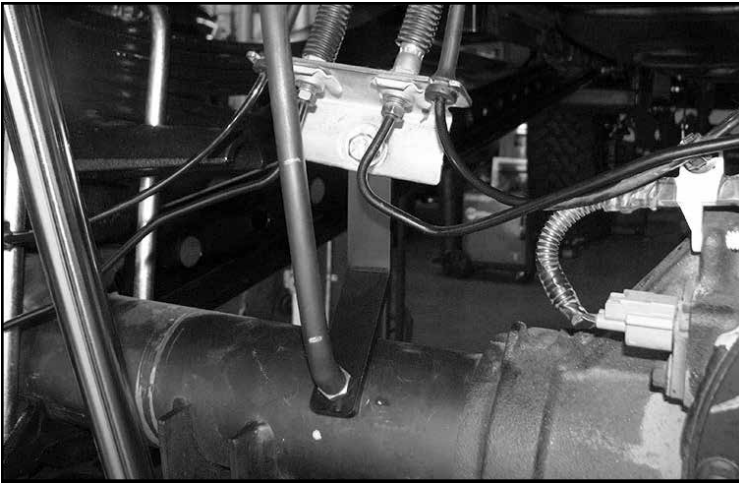

FIGURE 6 - STEP 6
6. (11-UP MODELS) Locate the factory brake line mount on the driver side of the axle. Remove the vent line from the bolt and remove the bolt. Save hardware. Locate the supplied brake line bracket FT30059 from the front box kit and attach the side with the sleeve to the axle using the factory hardware. Using the supplied 3/8" x 2" bolt, nut and washer, attach the brake line to the other end of the bracket. Reattach vent line. **SEE FIGURE 6**